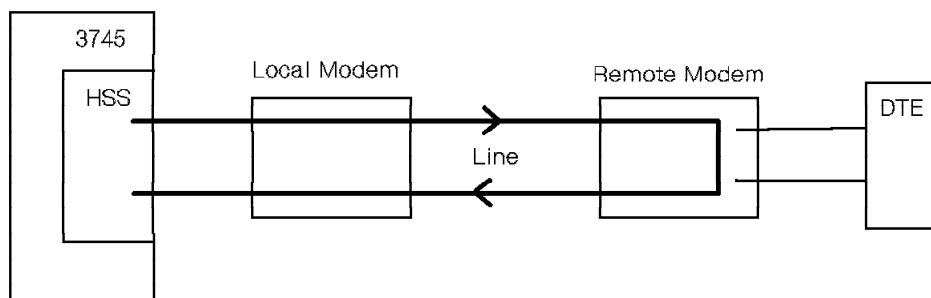

Figure 22. Remote Modem Wrap Test (HSS)
- Remote V.35 modem (see Figure 22 on page 364)